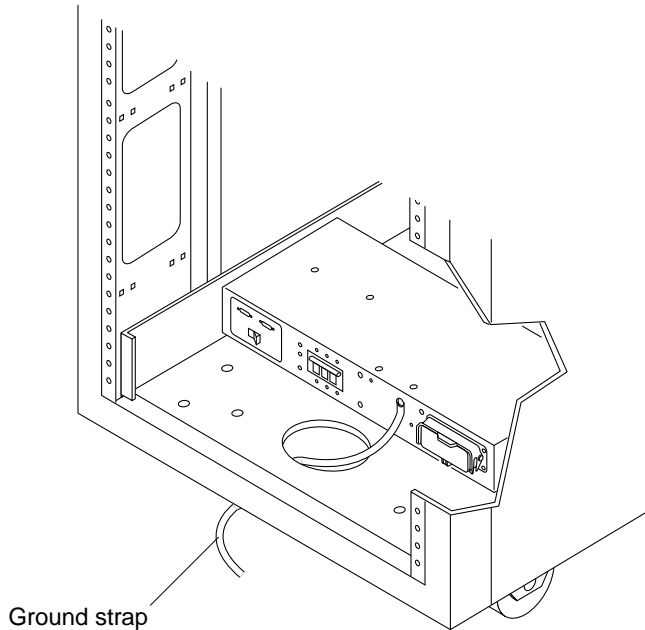

FIGURE 2-6 Connecting the Ground Strap to the Front Power Sequencer
3. Screw the other end of the ground strap the front power sequencer in the expansion cabinet (FIGURE 2-6).